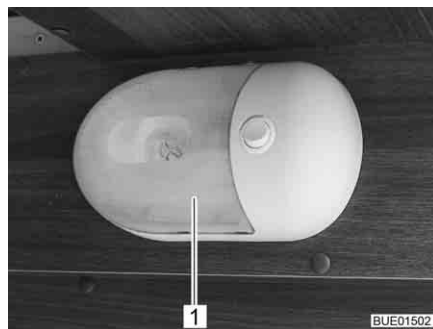

Fig. 192 Surface mounted light
- Carefully push the transparent cover (Fig. 192,1) together from both sides, pull it lightly from the switch and pull it off forwards.